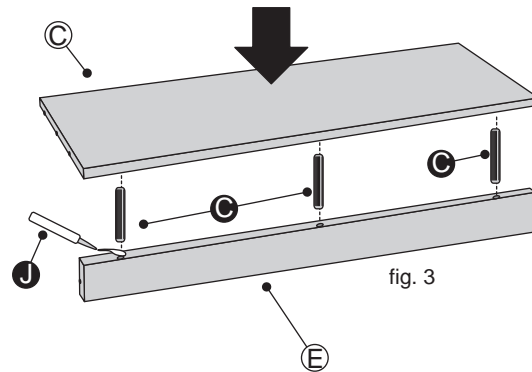

fig. 3
3. Place a small amount of Glue **J** into the dowel holes. Then use Dowels **C** to fix the Bottom Panel **C** onto the Front Panel **E**. See fig. 3.